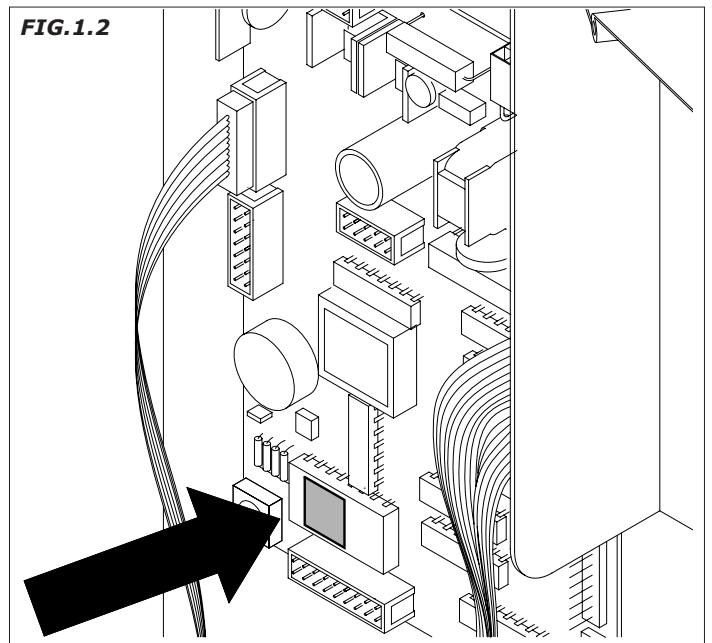

FIG.1.2
- The version of the programme contained in the EPROM (adhesive label applied to the component the assembled on the C.P.U. board) (Fig.1.2).